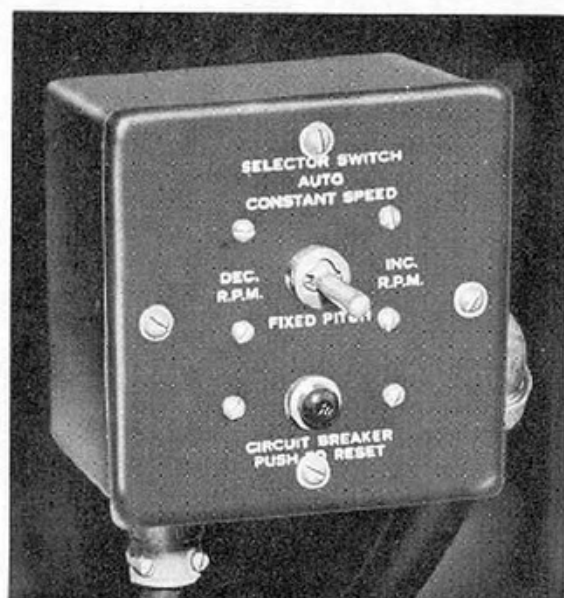

Figure 4—Electric Propeller Switches
*b.* Controls for the Curtiss Electric Propeller consist of a circuit breaker, a toggle selector switch mounted on a small switch box to the left of the instrument panel, (figure 4) and a lever on the control quadrant to set the propeller governor to desired engine speed. The selector has four positions: "AUTO CONSTANT SPEED," "INCREASE RPM," "DECREASE RPM," and "FIXED PITCH." When in "AUTO CONSTANT SPEED," the propeller governor automatically maintains engine rpm as set at the quadrant. "INCREASE RPM," and "DECREASE RPM" are momentary positions which, when used, vary engine rpm as indicated, and when released, leave the propeller in a fixed pitch condition.